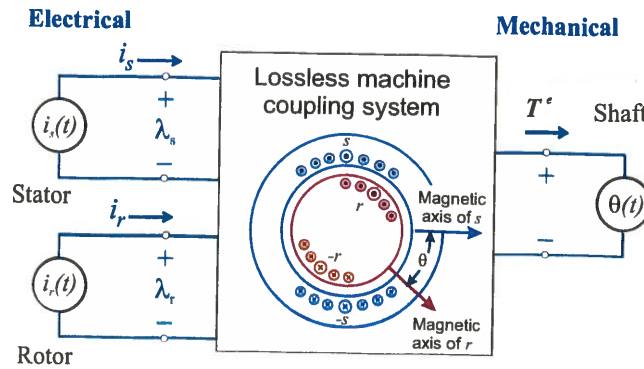
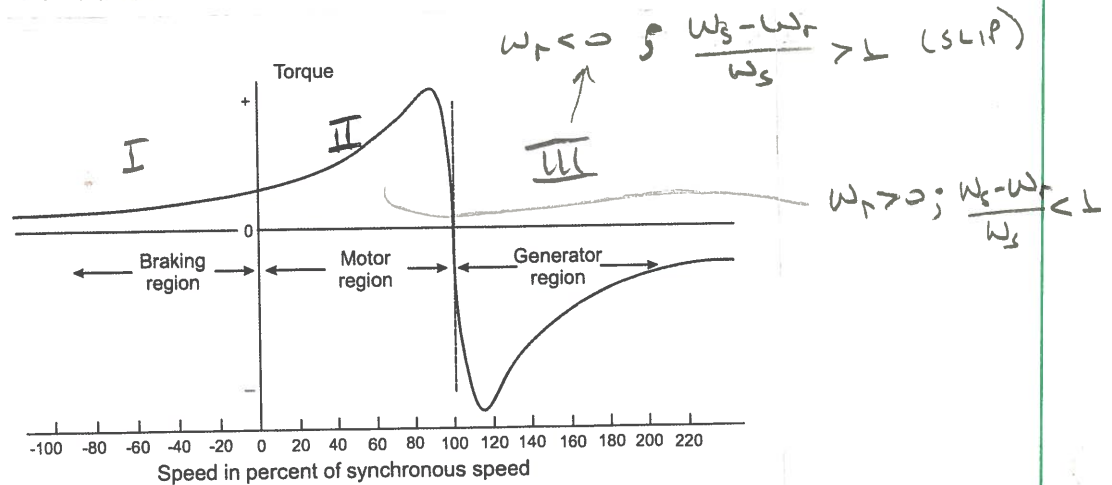

Figure 1: 3-Terminal EM Conversion System
Figure 2: Induction Machine Torque Speed Curve
1. Explain induction machine power flows using the 3-terminal electromechanical conversion diagram (Fig. 1), the machine conditions for average power conversion, and the induction machine torque speed curve (Fig. 2). Explain how Faraday's Law applies to induction machine operation. Note: machine includes generator, motor, and brake operation.
MOTOR REGION (II ON FIG 2.)